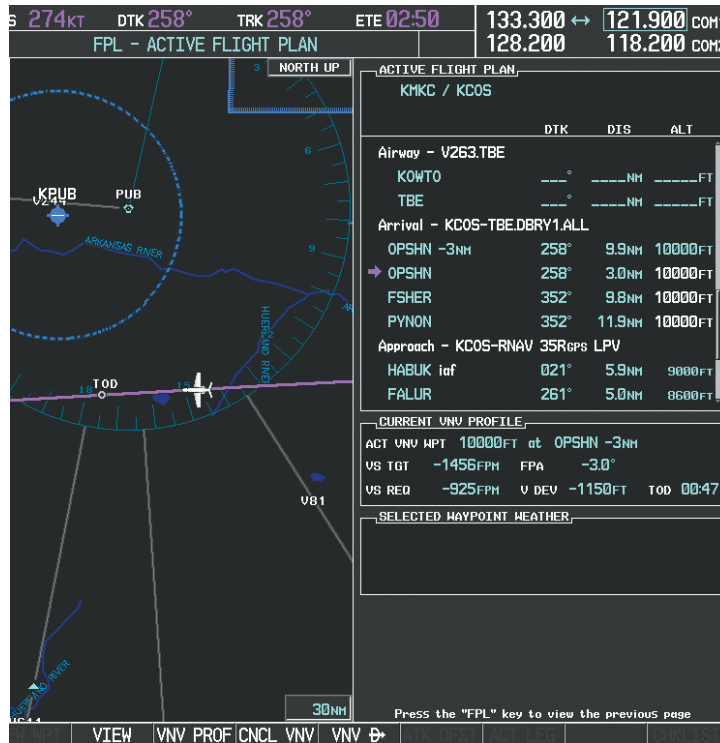
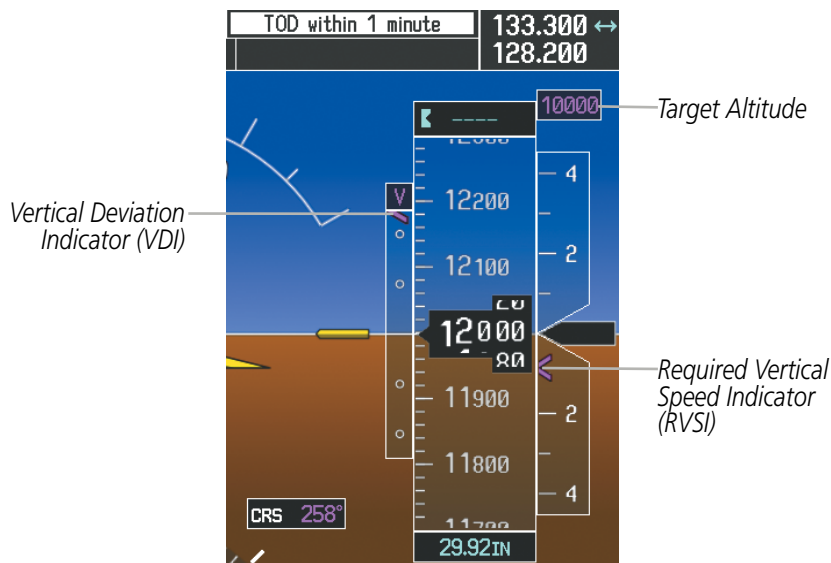

Figure 5-132 Approaching Top of Descent (TOD)
Figure 5-133 VDI & RVSI When Approaching Top of Descent (TOD)
15) As seen in Figure 5-132, the aircraft is approaching TOD. Note the target vertical speed required to reach the selected altitude. The Vertical Deviation Indicator (VDI) and the Required Vertical Speed Indicator (RVSI) are now displayed on the PFD as shown in Figure 5-133. When the aircraft is within one minute of the TOD, it is annunciated as shown in Figure 5-133, and an aural alert 'Vertical track' will be heard.